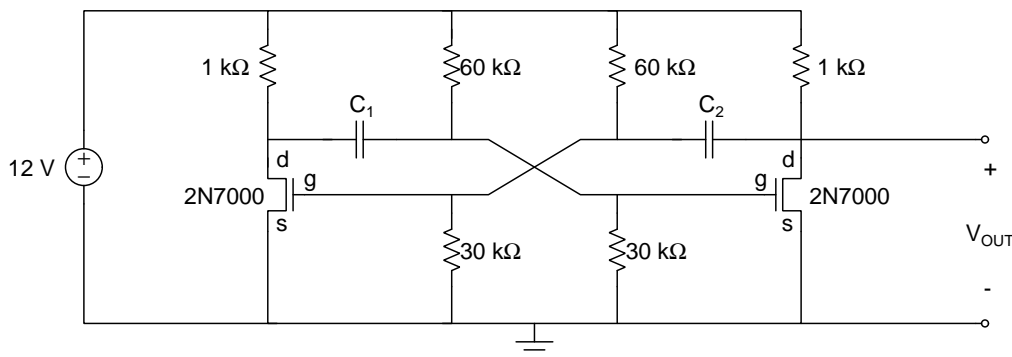

Figure 2: Astable multivibrator oscillator circuit of Figure 1 with 2N7000 transistors used as voltage-controlled switches.
**Simulation of Astable Oscillator:** In the implementation of an astable oscillator, NMOS transistors are used as voltage-controlled switches. In an NMOS transistor, current flows from the drain (D) terminal to the source (S) terminal when the gate (G) to source (S) voltage ( $V_{GS}$ ) is greater than the threshold voltage ( $V_t$ ) of the transistor. No current flows from the D terminal to the S terminal when  $V_{GS}$  is less than  $V_t$ .
1. Simulate the operation of the astable multivibrator circuit using the 2N7000 NMOS transistors to implement the voltage-controlled switches, as shown in Figure 2. Use the values of the capacitors determined in step 5 above. In NGSpice, use the **2N7000\_mod** symbol for the transistor model. This transistor has a nominal  $V_t = 1.5$  V.